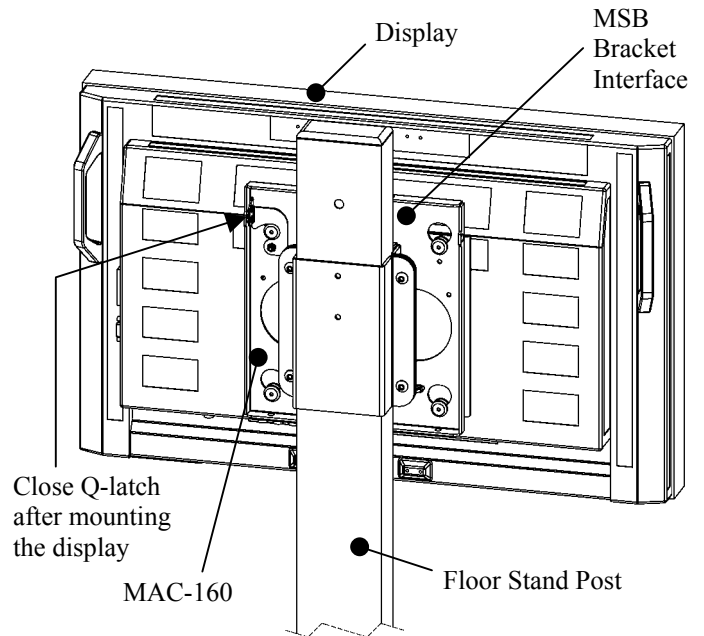

Figure 5. Engage Q-Latch with Mounting Buttons
3. Slide the display down over the mounting plate of the MAC-160. Make sure mounting buttons (on MSB interface bracket) fully engage all the teardrop slots on the mounting plate (see Figure 5).